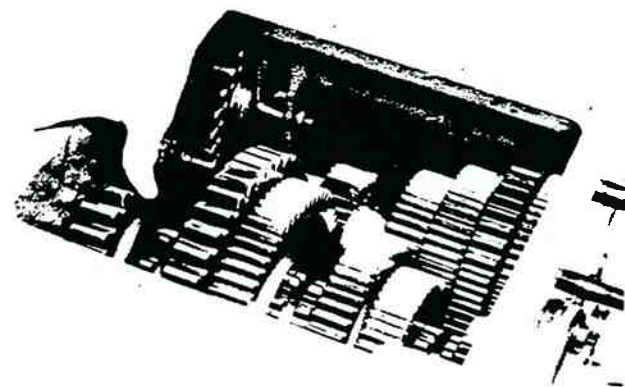

Figure 13-33. Moving Mainshaft Assembly.
1. Move the mainshaft assembly forward as far as possible and the mainshaft reverse gear to the rear against case (figure 13-33).